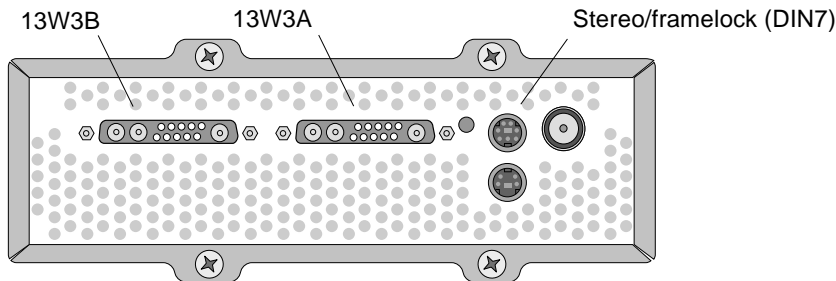

FIGURE 7-1 Sun XVR-4000 Graphics Accelerator Stereo/Framelock Connectors
1. **Locate the master Sun XVR-4000 graphics accelerator I/O back panel on the rear of your Sun Fire V880z server and its stereo/framelock DIN7 connector (FIGURE 7-1).**